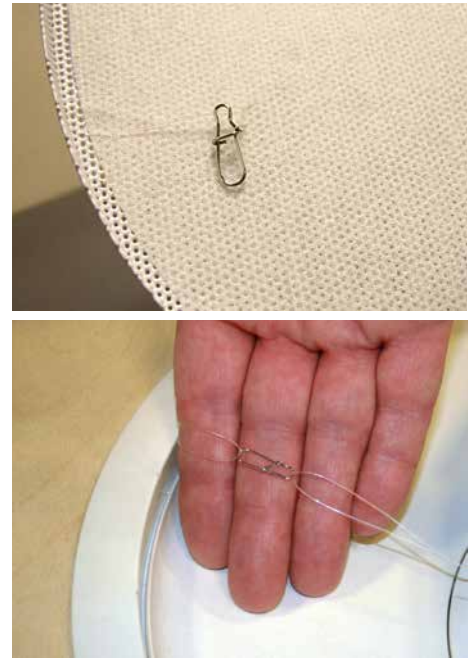

Figure 16. Grille safety clip and line (top) should look like this (bottom) when attached.
1. Once the loudspeaker is secured in the back can, you can attach the safety cable between the grille and loudspeaker. There is a nylon mono filament loop attached to the grille and looped through a metal clip. Another mono filament line is located inside the bass reflex port of the face of the loudspeaker. Use the metal clip to link these two mono filament loops (Figure 16).